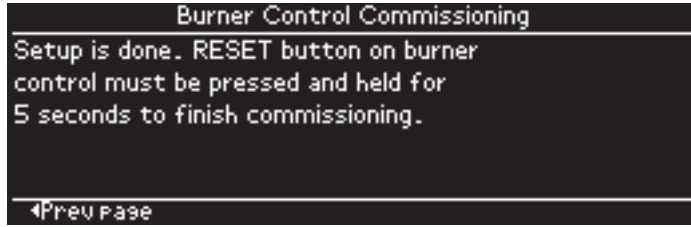

Fig. 75. Commission RESET button
- Burner commission reset (VP when setting is disabled *and* postpurge time was not configured) – see Fig. 75
- Burner commission reset (postpurge time was not configured earlier) – see Fig. 75
The Burner commission reset page is displayed for the final step of the commissioning procedure. After all configuration and confirmations are done the RESET button on the burner control module must be pressed and held for 5 seconds. This page (see Fig. 75) automatically displays when the burner control module wants this reset action to be performed.